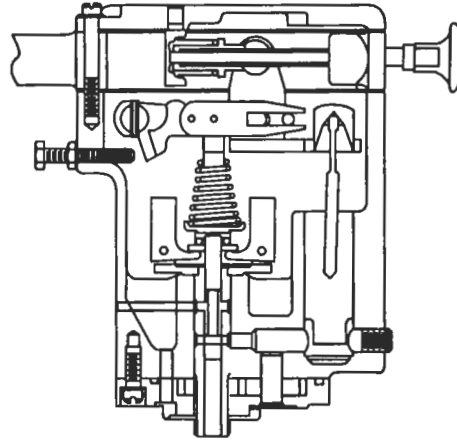

Figure 4. Stable Position of Governor Mechanisms When Engine Load is Constant
6. The oil pressure is maintained in the annular space between the under cut portion of the pilot valve plunger and the bore in the ball head. For any given throttle setting, the speeder spring has a definite compression force which is opposed by the centrifugal force of the revolving flyweights. When the two forces are equal the land on the pilot valve plunger covers the lower opening in the ball head, thus producing a constant speed condition (Figure 4.)